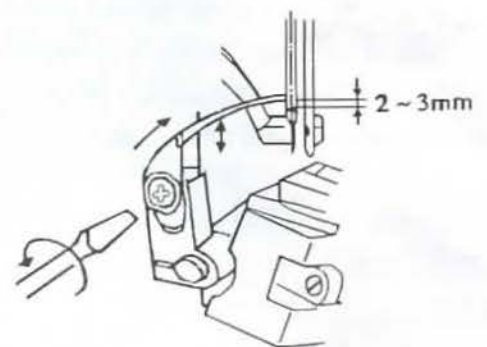

Fig. 10
(3) When the top of the large looper is aligned with the center of the parent needle after the large looper has been advanced from its back end position, the top of the large looper shall be 2 to 3mm above the upper end of the needle hole in the parent needle as illustrated in Fig.10. To adjust this position, loosen the setscrew of the large looper.